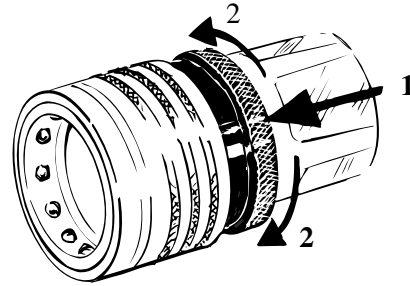

Figure 1.3
- 2 1 x 3/4" hose connects to a pressure-free return input. Lock the return input quick-release coupling female connection. See "Figure 1.3".